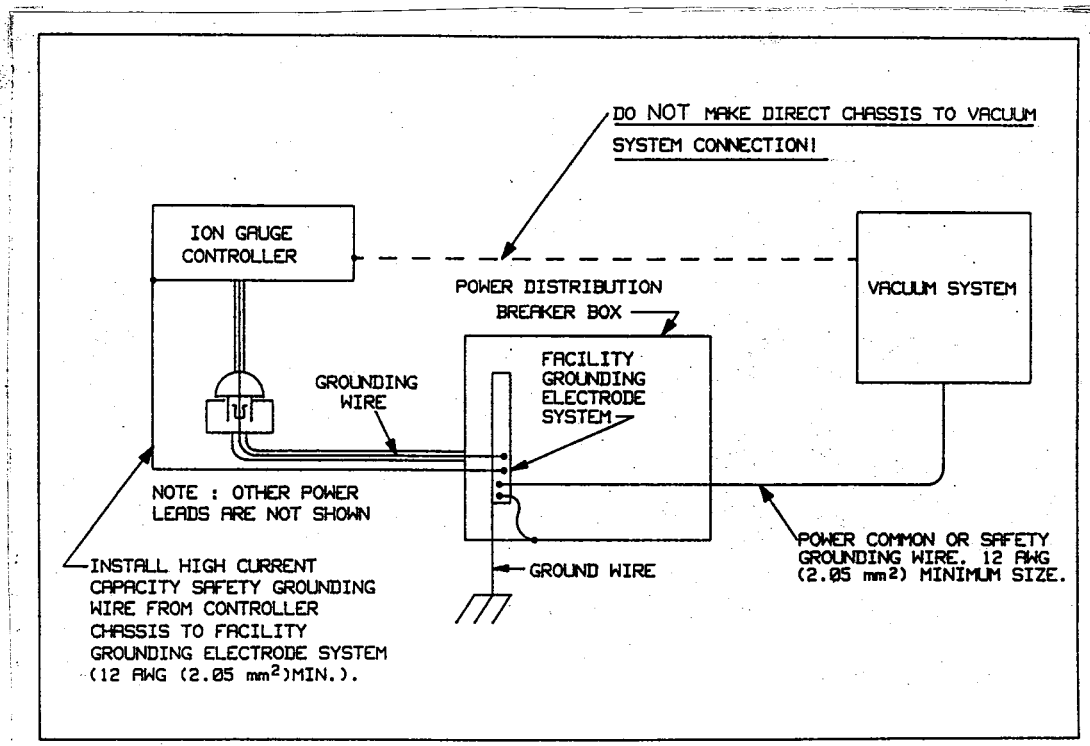

Fig. 1.11 Correct System Grounding
4. If the voltage change in step 3 is greater than 17% due to the placement of the shunt, it complicates the measurement. The commonality of the ground may be satisfactory and the coupling poor, or the commonality could be poor! Your electrician should be asked to check the electrical continuity between these two ground systems. The placement of a second ground wire (dashed line in Fig. 1.11) between the vacuum chamber and the IGC chassis is NOT a safe answer, for large currents could flow through it. Professional help is recommended.